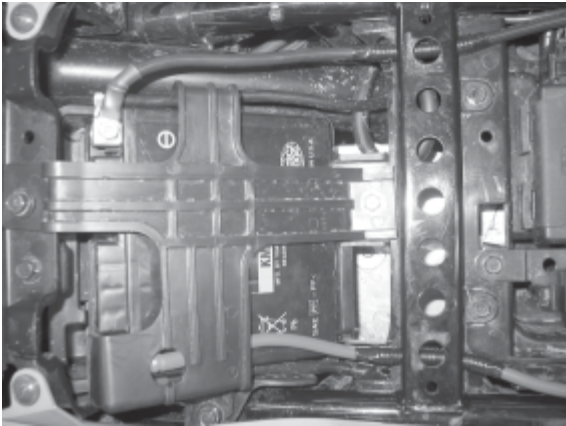
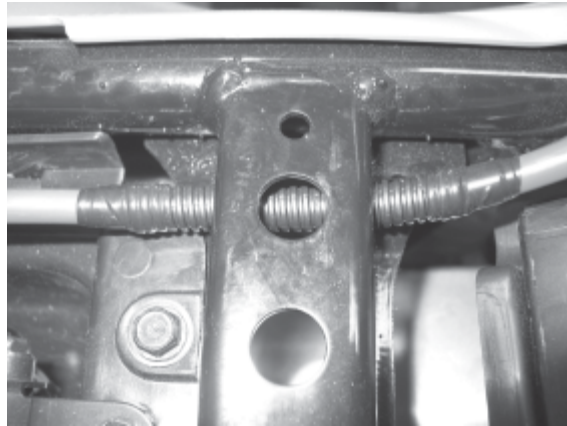

Figure 13 Route Electrical Cable to Winch
Figure 14 Place Electrical Plastic Conduit onto EACH Cable
b. Remove the battery cover shown in Figure 13.
- e. Continue to route the battery electrical cables exactly as seen in Figure 11. The electrical cables must protrude through the frame cross member that has holes through the side of it, Figure 11,12 and 13. Purchase plastic electrical cable conduit and place over the cable area that routes through the ATV cross member frame, Figure 13 and Figure 14. Secure the electrical cable conduit with electrical tape.
- g. Attach wire to the positive contactor post and battery positive terminal, Figure 8 and Figure 13. Attach the negative wire to the contactor post and battery negative terminal, Figure 8 and Figure 13. Reposition the protective boot over the positive battery terminal. *Note: The positive battery electrical cable must be routed on the front side of the battery, Figure 13. This will allow enough room to reinstall the battery hold down cover.*